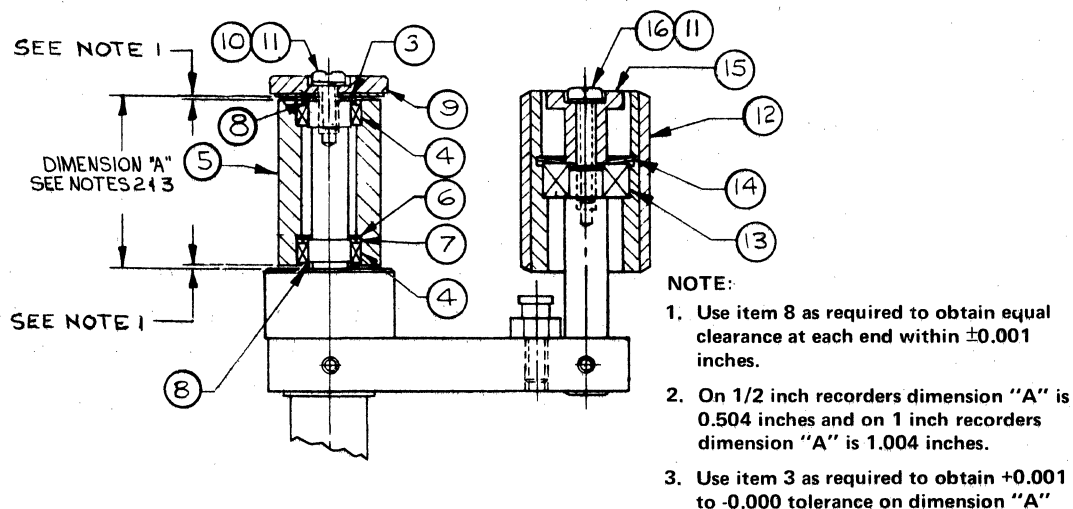

Figure 7-6. Pinch Roll Arm Rollers
- Step 5. Replace the front and rear bearings in the roller. Make certain that spring washer (6) and bearing spacer (7) are placed in the roller before the rear bearing is inserted.
- Step 7. Place shim washer(s) (8) over the shaft on top of the front bearing.
- Step 8. Lay shim washer(s) (3) on top of the assembly and install the roller cap.
- Step 9. Tighten the roller cap retaining screw and check that the roller turns freely on the bearings. The clearance at the front and rear of the roller and dimension "A" should be within the tolerances called out on Figure 7-6. If necessary, disassemble the roller and add or remove shims (3) and (8) to achieve the correct results.